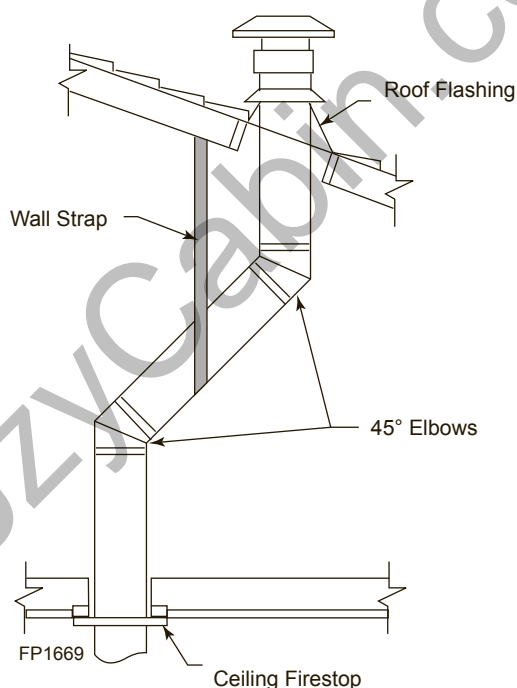

Figure 22 -
1. Determine the route your vertical venting will take. If ceiling joist, roof rafters or other framing will obstruct the venting system, consider an offset. Refer to Figure 22 to avoid cutting load bearing members.
NOTE: If an offset is needed to avoid obstructions, you must support the vent pipe every three (3) feet. Use wall straps for this purpose. *Page 18, Figure 22.* Whenever possible, use 45° elbows instead of 90° elbows. The 45° elbow offers less restriction to the flow of the flue gases and intake air.
5. Place the flashing over the pipe section(s) extending through the roof. Secure the base of the flashing to the roof and framing with roofing nails. Be sure roofing material overlaps the top edge of the flashing as shown in *Page 18, Figure 22.* There must be a 1" clearance from the vent pipe to combustible materials.